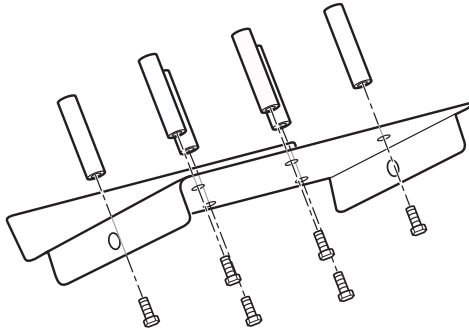

Figure 4-18
- Attach six Angled Tray Pins (item #21) to each of the four Angled Trays (item #20) as shown in Figure 4-18. Align the threaded hole of each pin with the mounting holes on each Angled Tray. Insert a M6 x 12 Hex Flange Bolt (item #22) through the bottom of the Angled Tray and into the Pin. Fully tighten the bolt to secure the Pin in place. When finished, you will have four Angled Trays with six Pins installed on each.